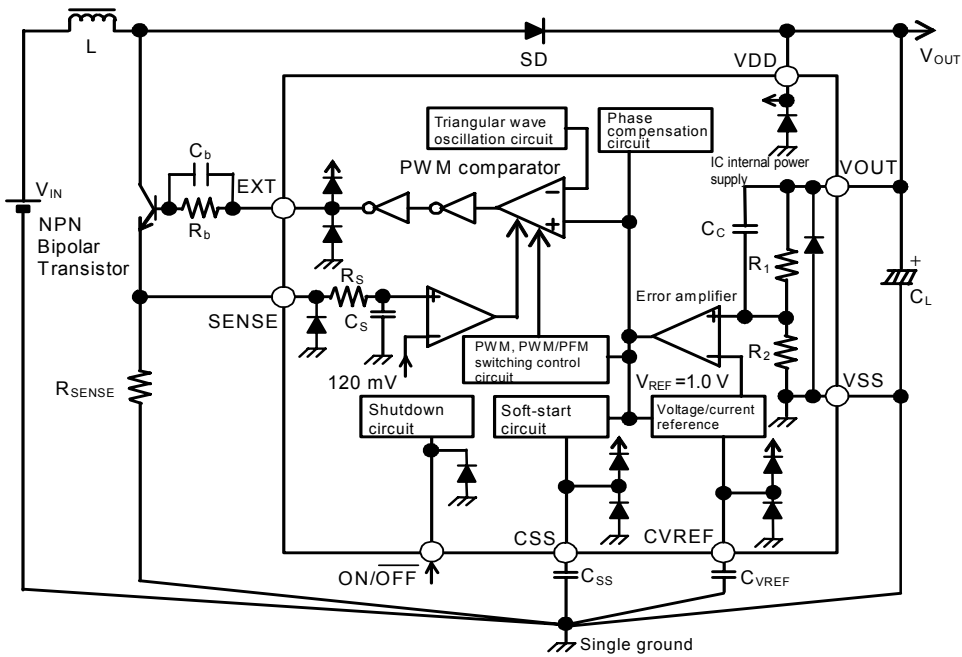

Figure 16 Output Voltage Fixed Output Type
Figures 16 and 17 in “**Standard Circuits (2) Using Bipolar Transistors**” show sample circuit diagrams using Sanyo Electric Co., Ltd. 2SD1628G for the bipolar transistor (NPN). The driveability for increasing the output current by means of a bipolar transistor depend on the h_{FE} and R_b values of that bipolar transistor.
In addition, if a speed-up capacitor (C_b) is inserted in parallel with the resistance (R_b) as shown in **Figures 16 and 17**, the switching loss will be reduced, leading to a higher efficiency.